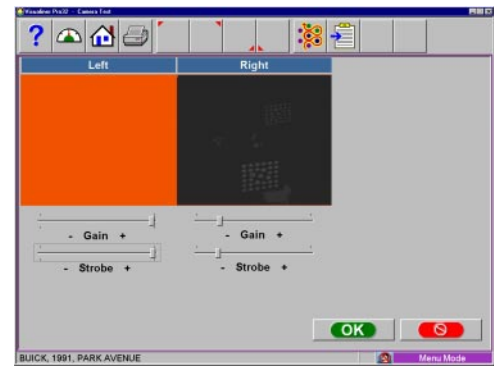

Figure 3-129
9. Using a white piece of paper, cover the complete camera lens. The entire image for that side should turn "ORANGE". (Figure 3-129) The image should not have any black spots which would indicate dirt on the lens. If black spots show up try lightly blowing off the camera lens with a can of compressed air. If the spots remain, replace the camera assembly and retest.